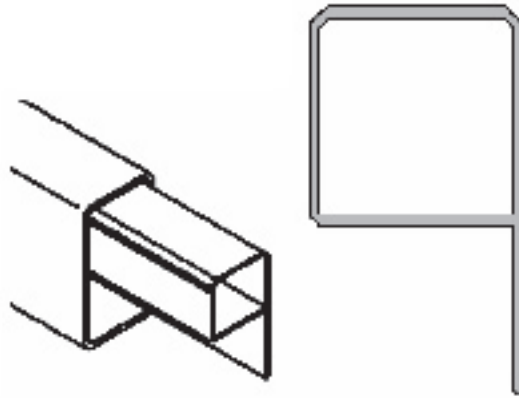

Figure 11. Aluminum Insert Orientation for the Top Rail
- 6.) Install Top Brackets Rail. Insert the aluminum insert into the rail in the orientation shown in Figure 11. Place a bracket at the end each rail. Slide trim pieces onto the rail facing the finished trim towards the center of the rail. Insert the remaining pickets or spindles in to the bottom rail. Starting at one end of the rail begin feeding the rail down onto the pickets or spindles. Once the top of the rail has been seated onto all the pickets and the rail is level install the bracket following the same procedure as Step 5.